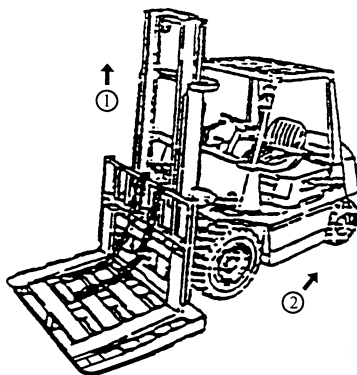

Fig. 8-8
- (1) Place a salver on the forks and make the forklift stop on the flat ground.
- (2) Make the forks and salver descend to the ground.
- (3) Take down the top joint of the chains. And take out chains from sheave.
- (4) Lift the inner and outer mast. (Fig.8-8 ①)
- (5) The forklift will be reversed when the lift bracket is disengaged from the outer mast.
(Fig. 8-8 ②)
(6) Replace main rollers